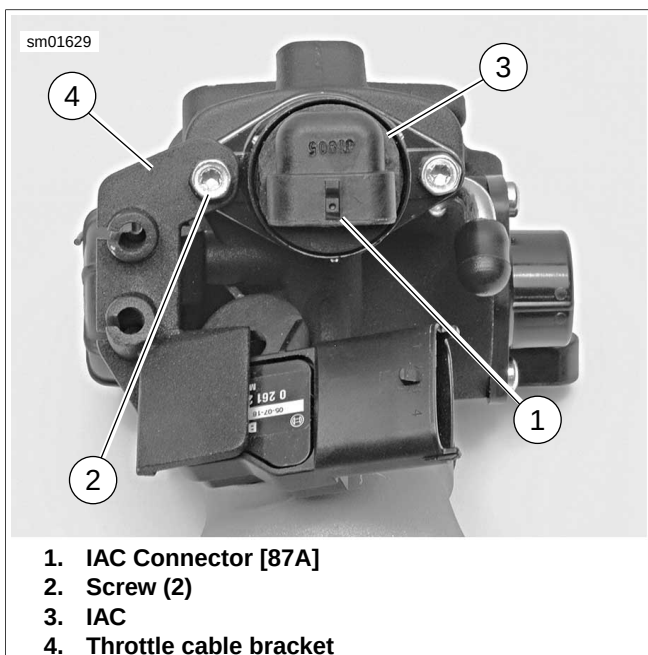
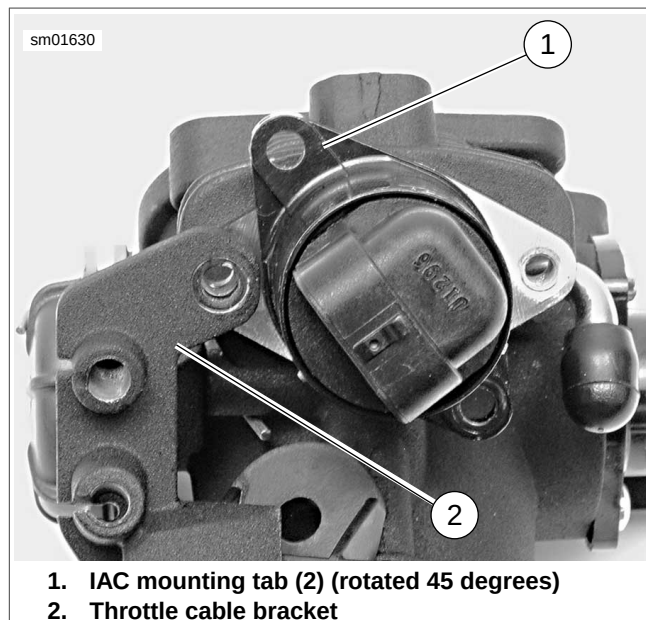

Figure 4-55. IAC Removal/Installation (XL Models)
Figure 4-56. Removing/Installing IAC (XL Models)
3. See Figure 4-55. Unplug harness connector [87B] from IAC connector [87A] (1).
4. Using a six-point socket (not a Torx wrench), remove two screws (2) in the following order:
5. See Figure 4-56. Grasp IAC and rotate clockwise until IAC mounting tab (1) clears throttle cable bracket (2).
4. Note orientation and position of IAC, shown in Figure 4-55. Rotate IAC approximately 45 degrees clockwise from this position (see Figure 4-56.) so IAC mounting tab will clear throttle cable bracket (4) when IAC is installed.
7. See Figure 4-55. Apply a drop of Loctite Threadlocker and Sealant 243 (blue) the threads of each screw (2).
8. Install two screws (2). Using a six-point socket (not a Torx wrench), tighten to 60 **in-lbs** (6.8 Nm).
9. Plug harness connector [87B] into IAC connector [87A] (1).